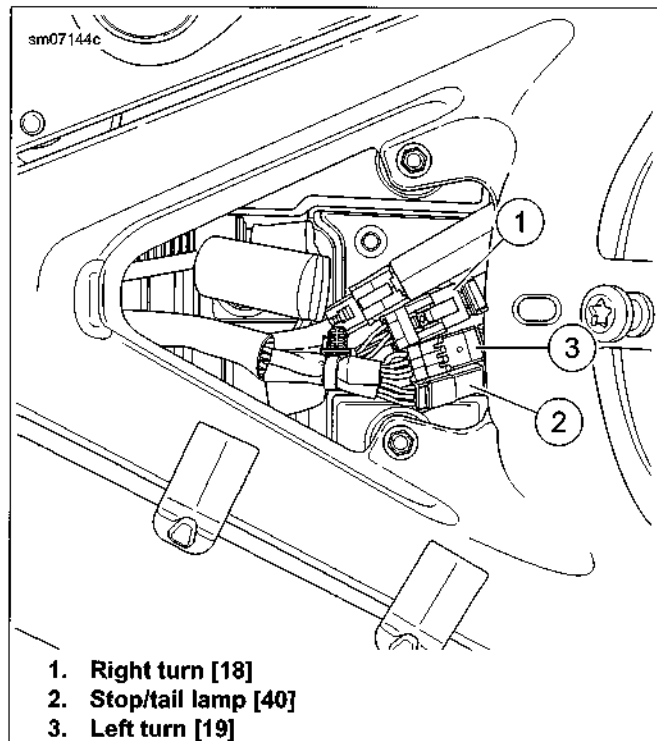

Figure 2-146. Rear Lighting Connectors: XL 1200C/CP/CA/CB
3. See Figure 2-146. Disconnect the right [18] (1) and left [19] (3) turn signal connectors and tail lamp connector [40] (2).